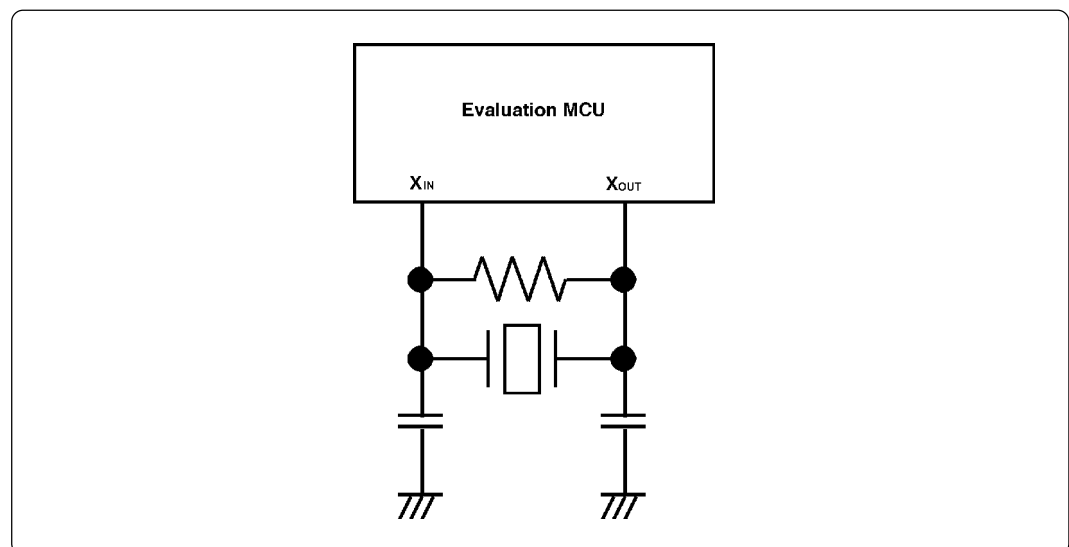

Figure 3.4 Circuit in which oscillation does not occur
- Make note of the fact that in the oscillator circuit shown in Figure 3.4 where a resonator is connected between the X_{IN} and X_{OUT} pins, oscillation does not occur because a flexible cable, buffer IC and other devices are used between the evaluation MCU and the target system.